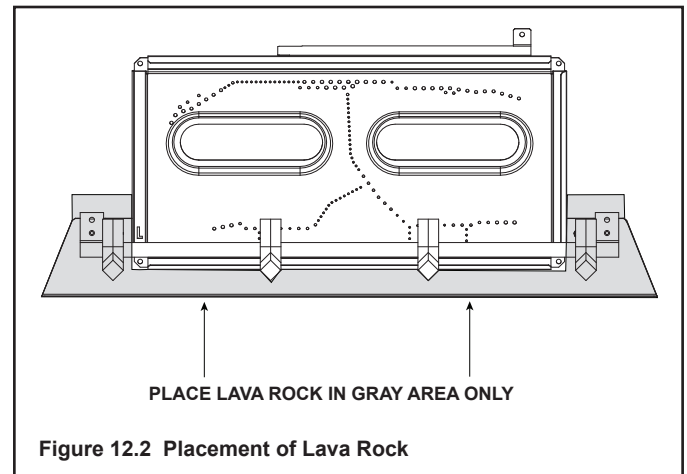

Figure 12.2 Placement of Lava Rock
- The glass assembly fastens to the fireplace in four places. The fastening mechanisms are spring-loaded glass latches. An example of the glass latch is shown in Figure 12.2.